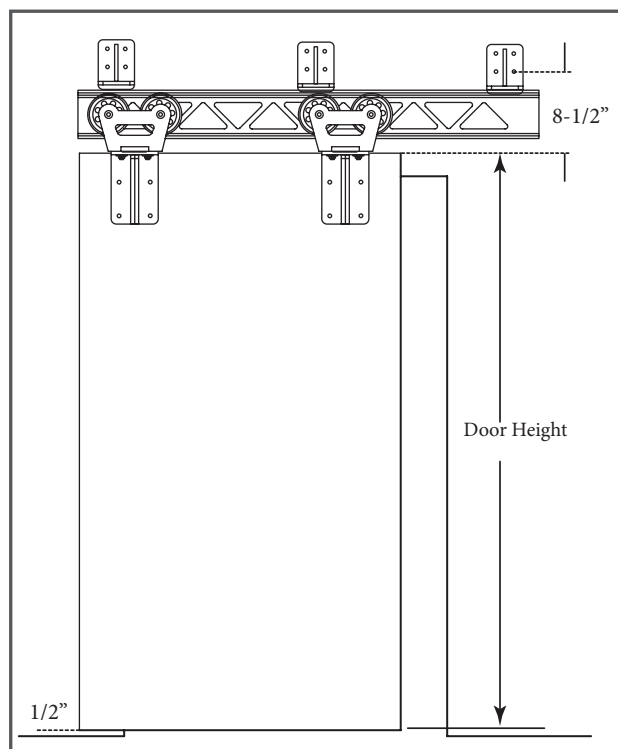

Figure 1
- To determine where the track should be installed, first measure the height of the door, then add 9" to the door length. 1/2" will be for the clearance between the bottom edge of the door and the floor. 8-1/2" will be from the top edge of the door to the center of the lower hole in the track bracket. (Figure 1).